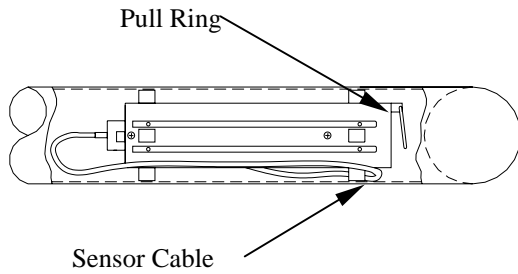

Figure 2
1. Looking into the open end of the cylinder, you will notice an inner shield network connected to a ring. (Refer to Figure 2, Sensor Mount Shield internal, cut away, top view.)
3. Unloop the sensor cable from the inner shield network. The sensor cable is looped around one of the shield guides that space the inner shield from the outer shield (See Figure 2). Remove the entire inner shield.
NOTE: The inner shield network must be properly oriented for installation into the temperature shield. Consult Figure 2 for proper orientation. Be sure to loop the sensor cable over the guide rod. This will prevent the sensor cable from possibly getting caught in the aspirator fan located at the rear of the shield.